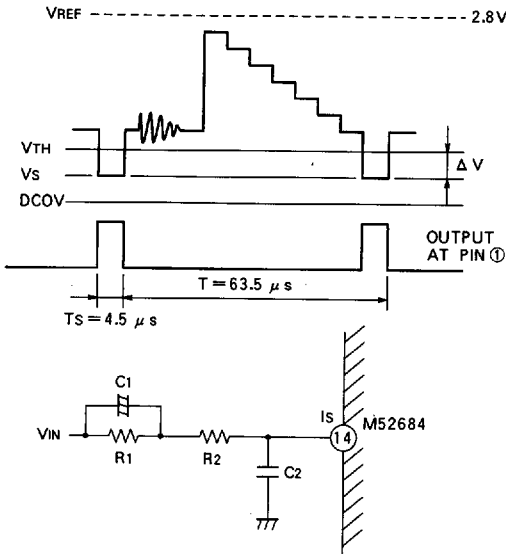

Fig. 1
- a) The external circuit consists of R₁, R₂, C₁, and C₂ as shown in Fig. 1.
- b) R₂ defines current I_S of pin ⑭ flowing during sync signal period. R₁ and R₂ set sync separation level V_{TH}. C₁ defines the time constant C₁*R₂.